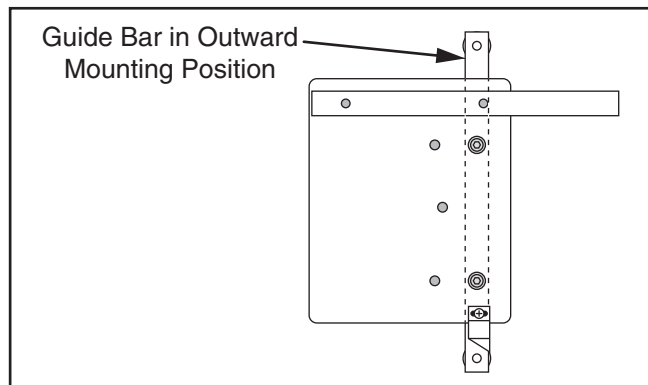

Figure 14. Guide bar in outward mounting position (slide plate shown removed for clarity).
1. Perform inward mounting procedure but install guide bar using right row of mounting holes on base plate (see **Figure 14**).